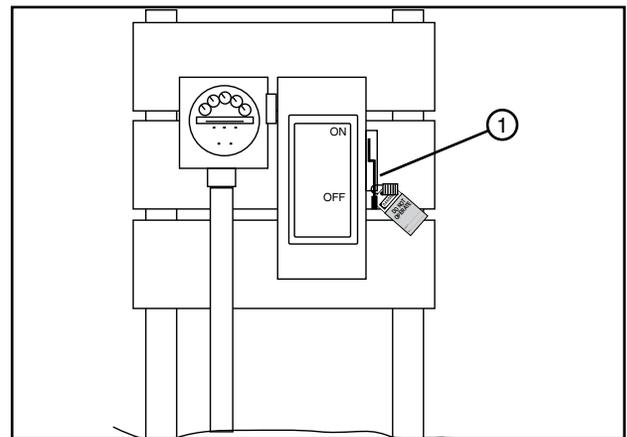

Figure 25-1 1. Public Power Service Disconnect
1. SHUT OFF and LOCK the public power service disconnect to the irrigation machine. See Figure 25-1.
FILL OUT the blue (OSHA safety color code) tag and attach to the disconnect after locking. See Figure 25-1.